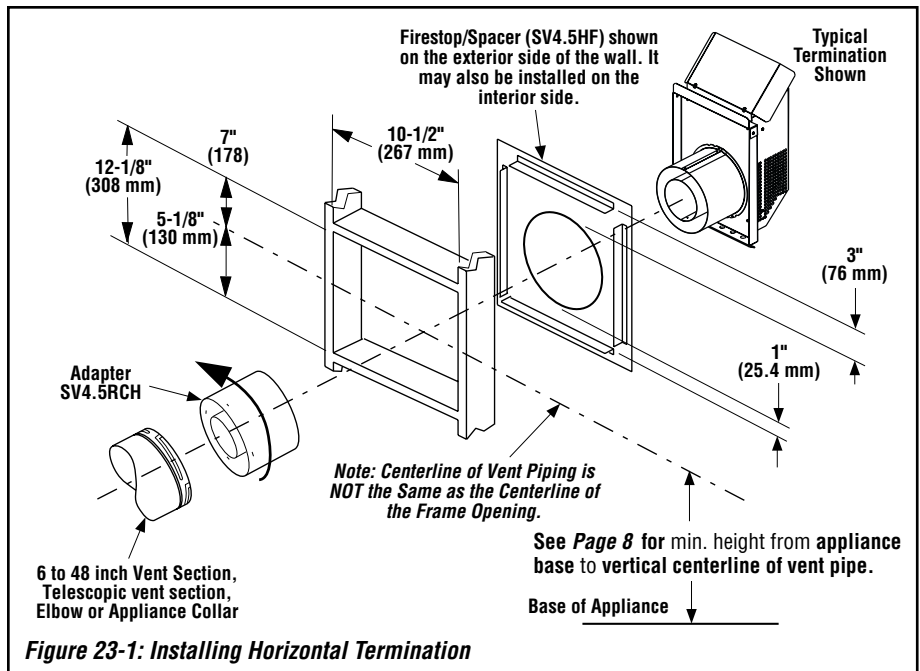

Figure 23-1: Installing Horizontal Termination
- If not already done, prepare an opening as described in **Figure 23-1**.
- Assemble the vent system to the point where the end of the last section is within 5 to 8-1/2 inches (127 to 216 mm) inboard of the exterior surface to which the termination will be attached. See **Figure 23-1** and **23-3**.
See **Figure 23-1**. Install the **firestop/spacer** over the opening at the exterior side of the framing, long side up, with the 3-inch spacer clearance at the top, and nail into place. (The firestop/spacer also may be installed over the opening at the interior side of framing).